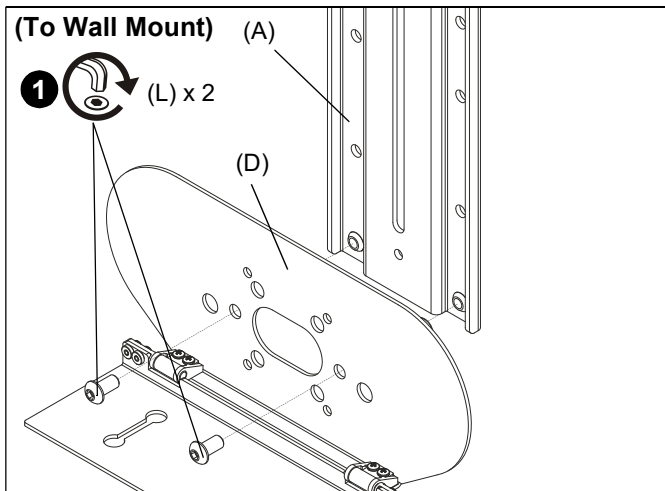

Figure 2
1. Attach shelf (D) to upright bracket (A) using two 1/4-20 x 1/2" button head machine screws (L). (See Figure) or (See Figure 2)